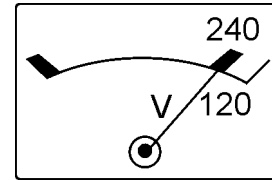

Figure 17. AC Voltmeter (120VAC)
10. Refer to the AC voltmeter (Figure 17) on the control box. The voltage indicated on the voltmeter should be 120 VAC with no load applied.